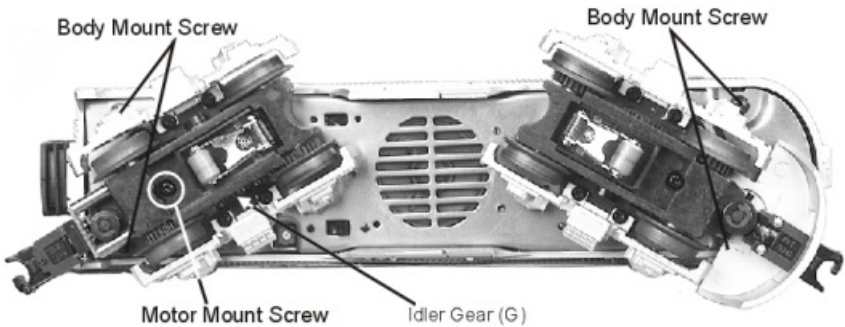

Figure 4: Mounting Screws
1. Remove the four Phillips screws from the chassis, as seen in Figure 4, then lift the body away from the chassis.
2. Remove the truck blocks from the chassis by unscrewing the large Phillips motor mount screw on the bottom of each truck block, as shown in Figure 4.